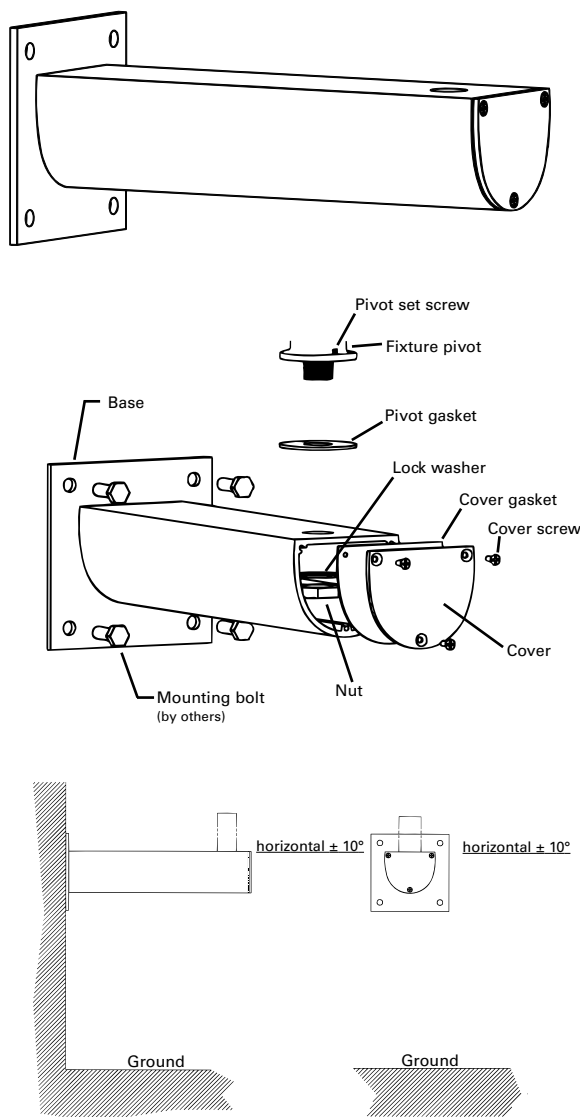

Figure 1
2. Wall mount arm is to be mounted with the top flat surface mounted upward only (see Figure 1).